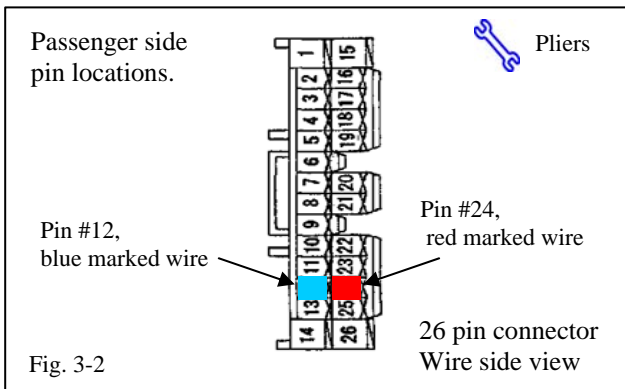

Fig. 3-2
- (b) Locate the white wire with a **BLUE** mark, pin 12 on the 26 pin connector. (Fig. 3-2)
- (1) Install a t-tap about 1 inch from the connector end.
- (2) Make sure t-tap is snapped in correctly.
- (c) Locate the white wire with a **RED** mark, pin 24 on the 26 pin connector. (Fig. 3-2)
- (1) Install a t-tap about 1.5 inches from the connector end.
- (a) Locate the front Right Hand (RH) door sill plate.